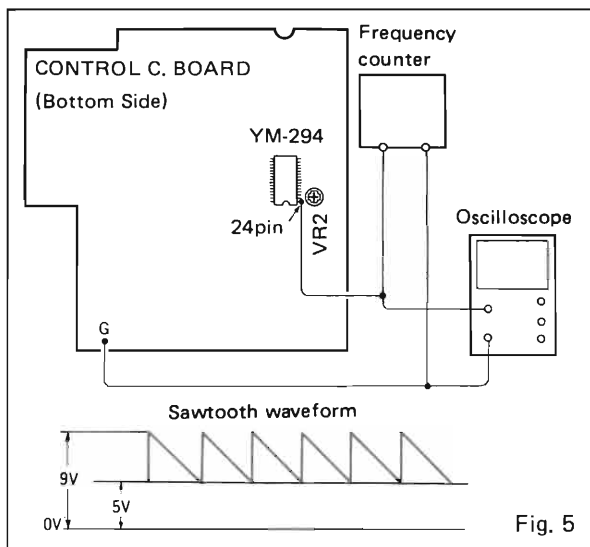

Fig. 5
1. With a frequency counter and oscilloscope connected to Pin 24 of IC-2 as shown in Fig. 5, confirm that the frequency is within $128\text{Hz} \pm 1\text{Hz}$ and that a sawtooth waveform is obtained. (This condition will be considered the "specified condition".)